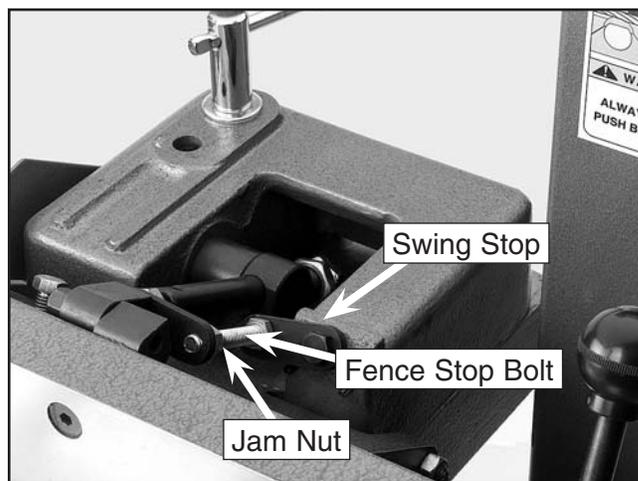

Figure 50. 90° swing stop engaged.
2. Flip the 90° swing stop into the position shown in **Figure 50**.
3. Loosen the jam nut on the 90° fence stop bolt (**Figure 50**).